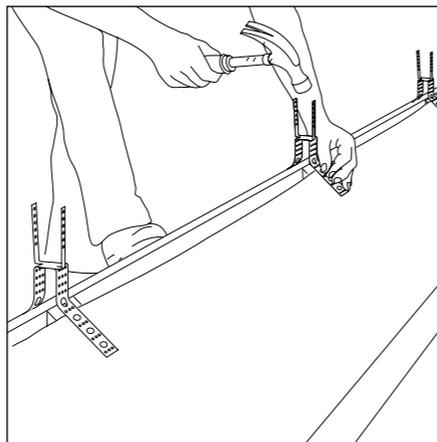

Fig 1
- 1 Lay the roof underlay and battens in the normal manner leaving a minimum 5mm continuous gap in underlay at roof apex (refer to BS 5250 recommendations for specific advice) (Fig. 1).